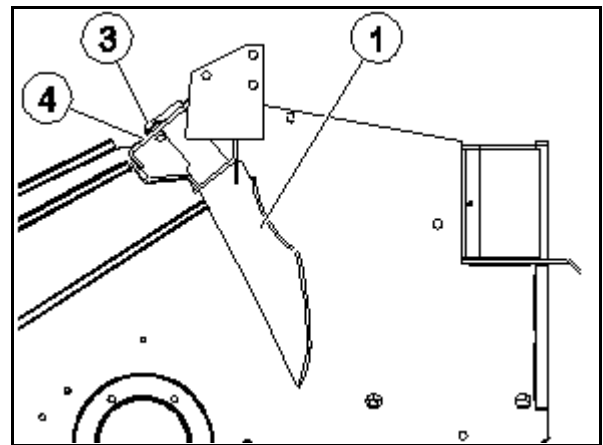

Fig. 120
2. Measure the distance between the strippers (1, Fig. 120/1) and the rotor (2) in the conveyor duct from the cargo space.
- 3.1 Unscrew the screws (Fig. 120/3).